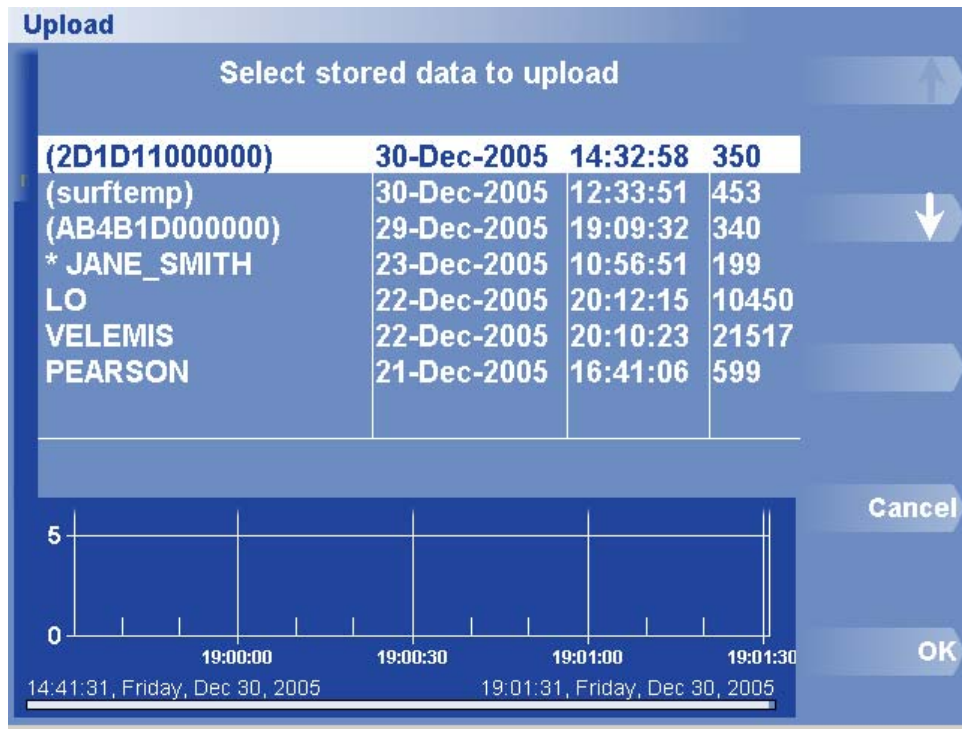

Figure 19. Upload Stored Data
5. Select Start Upload. The Stored Data list appears (Figure 19).